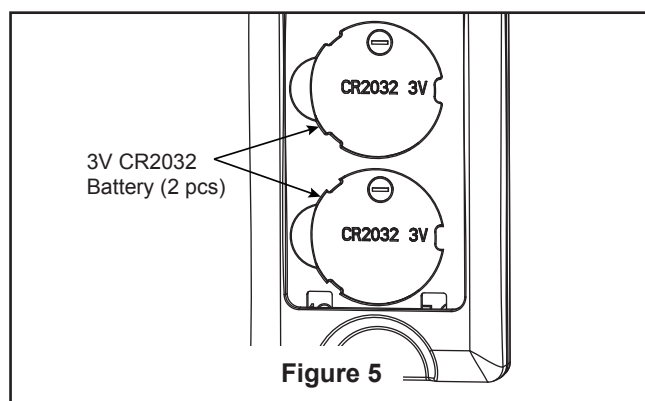

Figure 5
- ☐ **5.** Assemble the light kit wire cover to the light plate assembly using the two key slots in the light kit wire cover. Replace the previously removed screw and securely tighten all three screws. (Figure 5)
- ☐ 5. Install two 3V batteries in hand-held remote transmitter, with fan power off. (Figure 5)